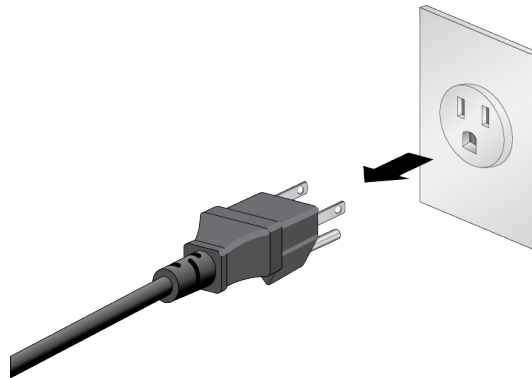

Figure 127. Powering Off the AC Power Supply
- ❑ For the AC power supply, disconnect the AC power cords from the AC power sources. Refer to Figure 127.